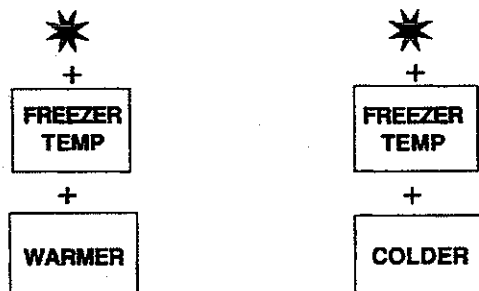

Figure 12
- b. To set or change freezer temperature, press START pad (*); press FREEZER TEMP; press WARMER or COLDER to raise or lower temperature setting *one* level at a time. Holding down WARMER or COLDER pads raises or lowers temperature *more than one* level at a time. See Figure 12.